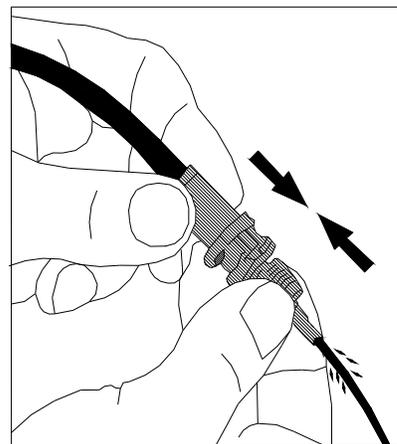

Figure 37
Again, squeeze the flush valve (with the fluid being discharged into the waste container) until you see ink in the discharge. Release the valve to stop the fluid flow, see **Figure 37**.
- For Standard DOD or 7-valve 8000 series print heads, connect the ink line to the “Ink/Cleaner In” connector. Hold the flush valve in one hand and aim the outlet into a container. This container should be labeled “Waste” and the contents disposed of properly. Squeeze the flush valve open and hold until you see ink in the discharge. Release the valve to stop the fluid flow, see **Figure 37**.